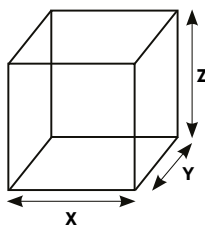

Figure 3
To calculate the room size multiply the height (Z) by the width (X) and the length (Y) in feet to get the cubic volume of your sauna room like shown (see **Fig. 3**). Every square foot of unisulated material (etc. glass) adds 1.5 cubic feet to room volume.